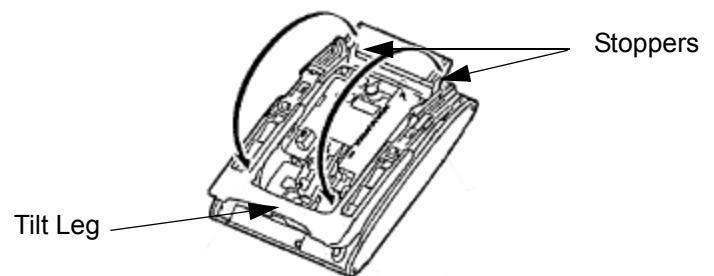

Figure 6-24 Separate Tilt Leg from Leg Support
3. Lower the tilt leg to the first position (refer to Figure 6-24 Separate Tilt Leg from Leg Support).